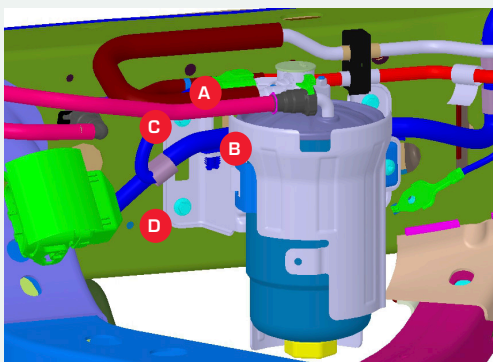

FIGURE 3
- 1 Loose harness fixed points A & B in the OE filter left side as per FIG. 3.